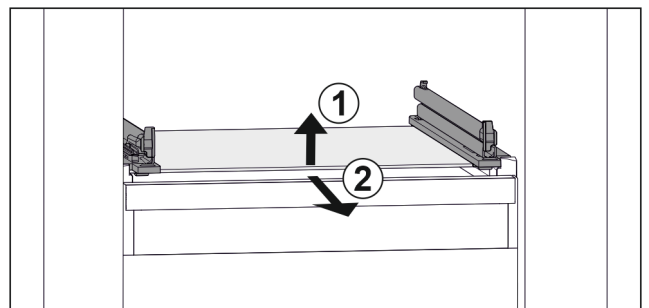

Fig. 100 Example illustration of glass shelf
- Lift glass shelf at the front. Fig. 100 (1)
- Take out glass shelf to the front. Fig. 100 (2)